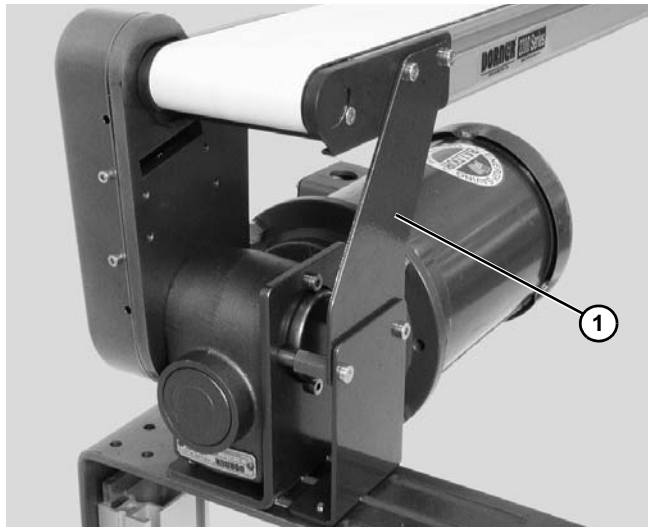

**Figure 67**
3. Install belt (**Figure 67, item 1**) on conveyor. Lift conveyor slightly to avoid pinching belt on temporary support stands.